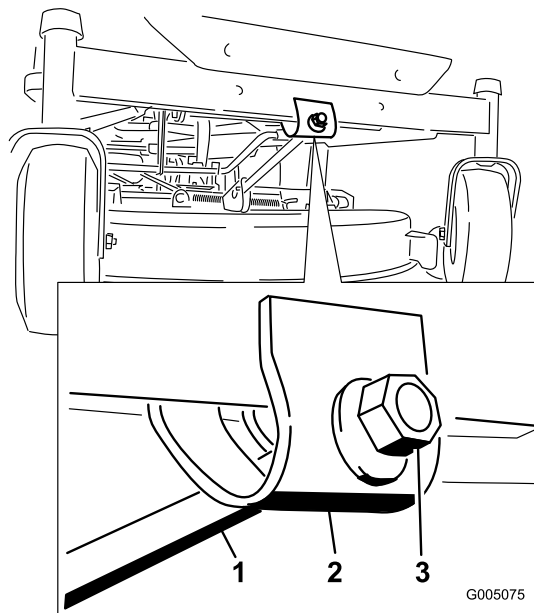

Figure 43
7. To adjust the front-to-rear blade slope, rotate the adjustment nut in the front of the mower (Figure 43).